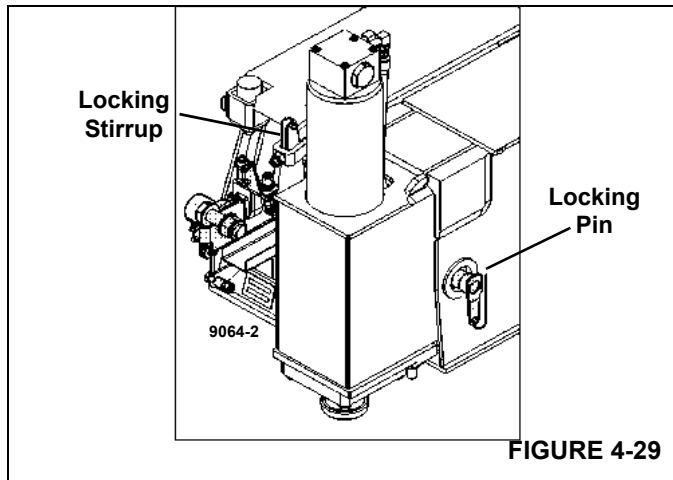

FIGURE 4-29
1. With the outriggers fully retracted, disengage the locking stirrup from its stowed position, refer to Figure 4-29.
6. Install travel locking pin in outrigger box before traveling to prevent beam creep, refer to Figure 4-29.
With the outriggers fully retracted, disengage the locking stirrup from its stowed position. Slowly extend the outriggers to the partial extend position, until the outer extension beam and inner extension beam holes align. Partial extend positions can be located at 57 or 79 percent position. Extend beam until the locking pin holes aligns with the holes on the extension beam, refer to Figure 4-29. Remove locking pin from stowage bracket located next to the frame of the outrigger box. Insert locking pin into Partial/Mid Extension locking holes and rotate pin until retention pin aligns with slot in locking hole of outrigger beam. Swing handle on the lock pin until lug is pointing downward in order to retain pin in a secured position. If the pin will not slip into the hole freely, slowly extend or retract the outrigger beam, allowing the locking pin to engage into the holes.